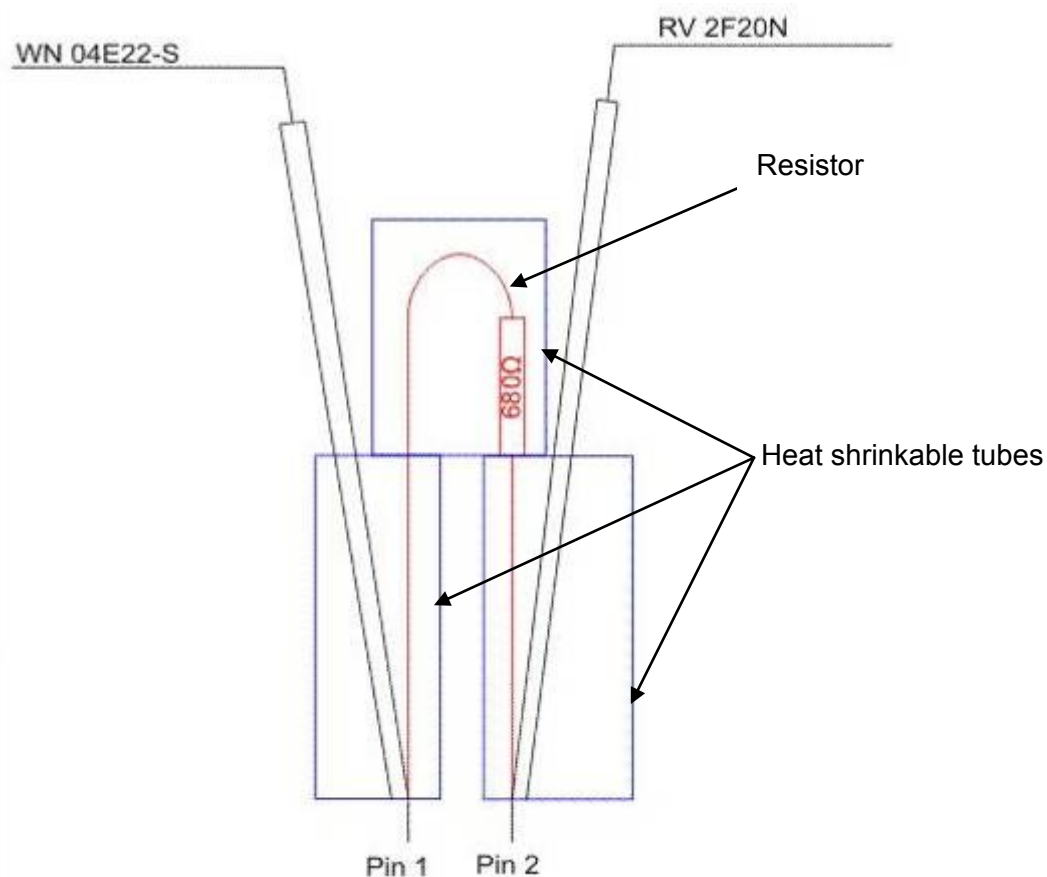

Figure 8 Installation of Resistor between Pin 1 and 2 of Plug 2RV-a.
- 1.8.30 Bend one lead of the 680 Ohm resistor (Item 17 of List 2.2) by 180° and cut straight lead to the same length. Cut two heat shrinkable tubes (Item 18 of List 2.2) to the length of the leads, refer to Figure 8.
- 1.8.31 Cut the wire WN 04E22-S of cable loom FLARM 1 to length and strip the insulation of the wire. Put this wire with one lead of the prepared resistor through one heat shrinkable tube. Solder wire and resistor to pin 1 of connector 2RV-a (Figure 8, left side).
- 1.8.32 Put RV 2F20N with the other lead of the resistor through one heat shrinkable tube. Solder wire and resistor to pin 2 of connector 2RV-a (see Figure 8, right side).
- 1.8.34 Put the third heat shrinkable tube over the remaining parts of the resistor as protection (refer to Figure 8). Shrink it with a heating gun. Cut remaining tube, if necessary.